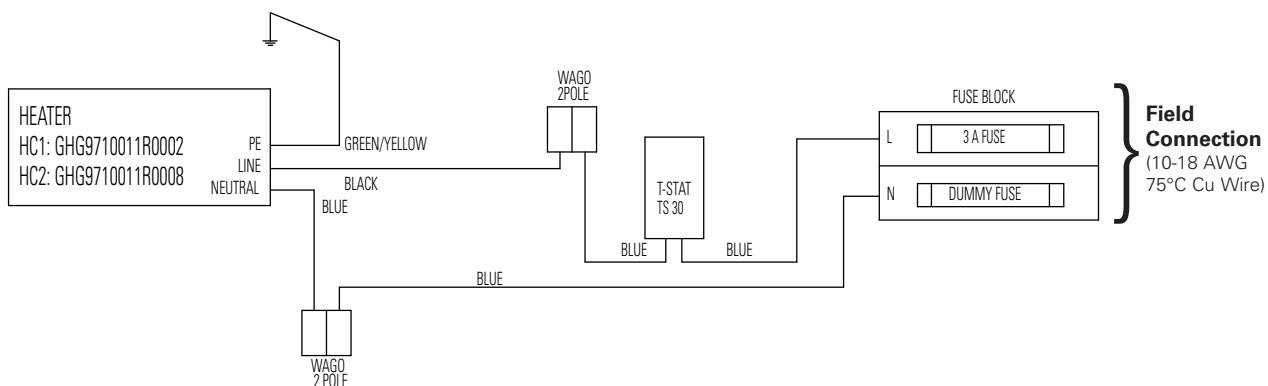
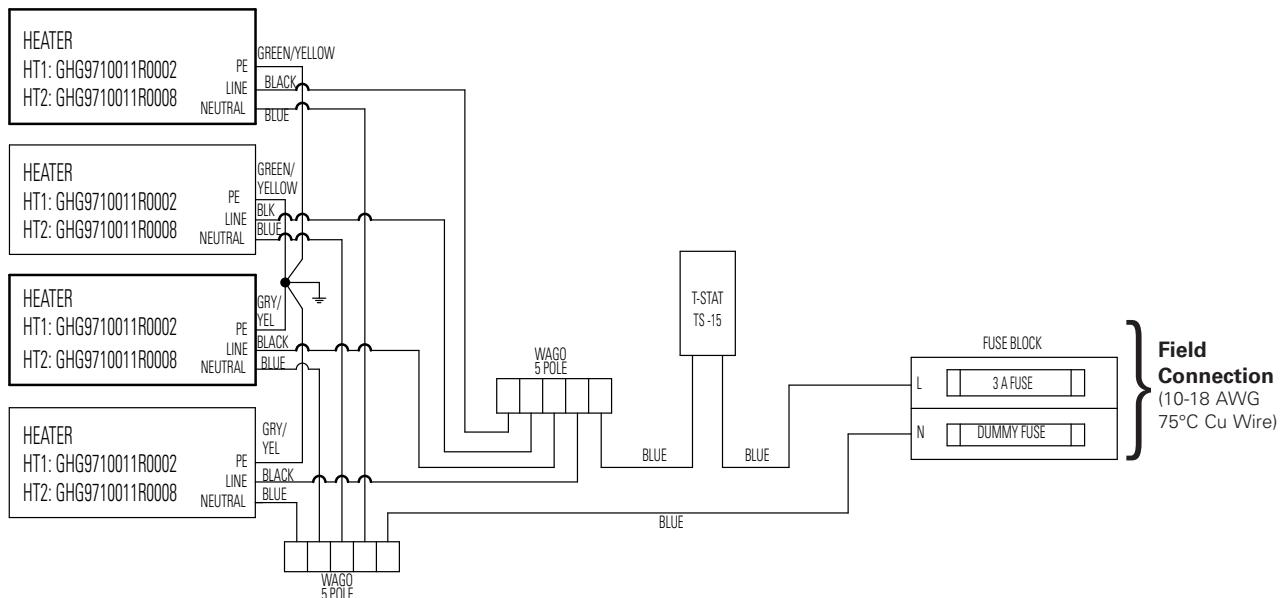

Figure 5 – Wiring Diagram-HC1/HC2
Figure 6 –Wiring Diagram- HT1/HT2
2. See wiring diagrams Figure 5 and Figure 6.